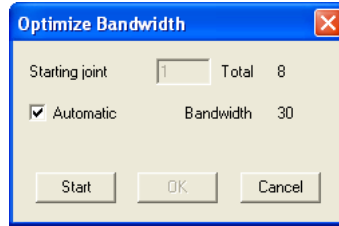

Figure 3-37 Optimize Bandwidth dialog box
- To optimize the solution and minimize the bandwidth, choose the OPTIMIZE button. The dialog of Figure 3-37 appears.